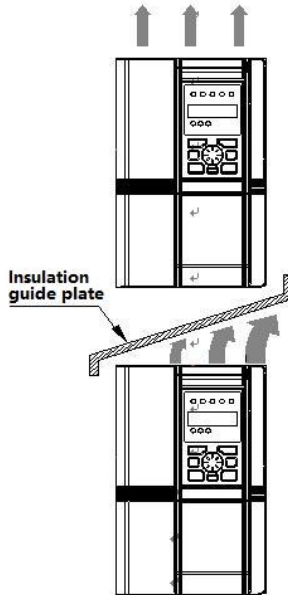

Fig.3-3 Up and down row installation requirements
If one row of inverters need to be installed above another row, please install insulation guide plate to prevent the heat from the lower row inverters which will cause the temperature of the upper row inverters to raise, even over-heat and overload fault occurs. Measures as shown in Fig.3-3:
- Please mount the frequency inverter vertically to facilitate the upward emission of heat. If there are multiple frequency inverters in the cabinet, please install them side by side. Please refer to **Fig.3-3** and install a heat insulation flow guide plate in the case where the upper and lower mounting is required.